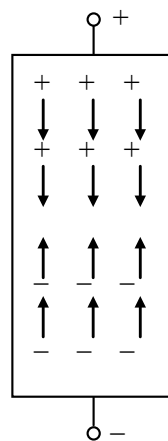

Fig. 1.2
**Voltage influence.** The applied voltage will force the free electrons and holes to flow between the positive and negative terminals in the crystal. If the external voltage is applied to the semiconductor, the free electrons flow toward the positive terminal, and the holes flow toward the negative source terminal. In Fig. 1.2, the free electrons and holes move in opposite directions. From now on, we will visualize the current in a semiconductor as the combined effect of the two types of flow – the flow of free electrons through larger orbits in one direction and the flow of holes through the large and smaller orbits in other direction. Thus, free electrons and holes carry a charge from one place to another. They both are carriers in semiconductors in contrast to electrons in metals.